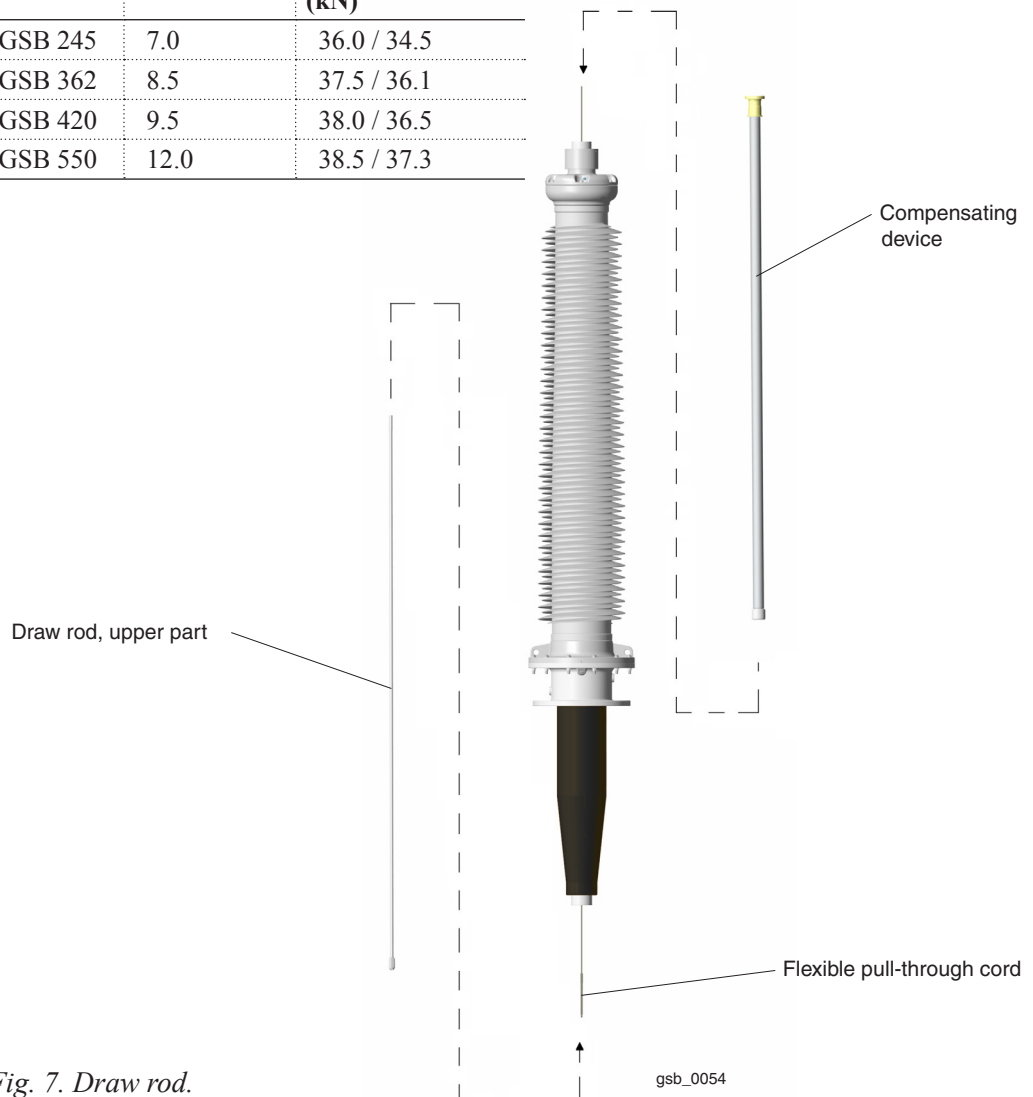

Fig. 7. Draw rod.
1. As shown in Fig. 7, the temperature compensating device is placed on top of the bushing inner tube. The upper draw rod is pulled through the bushing by the pull-through cord. The compensating device is unique for each bushing size.